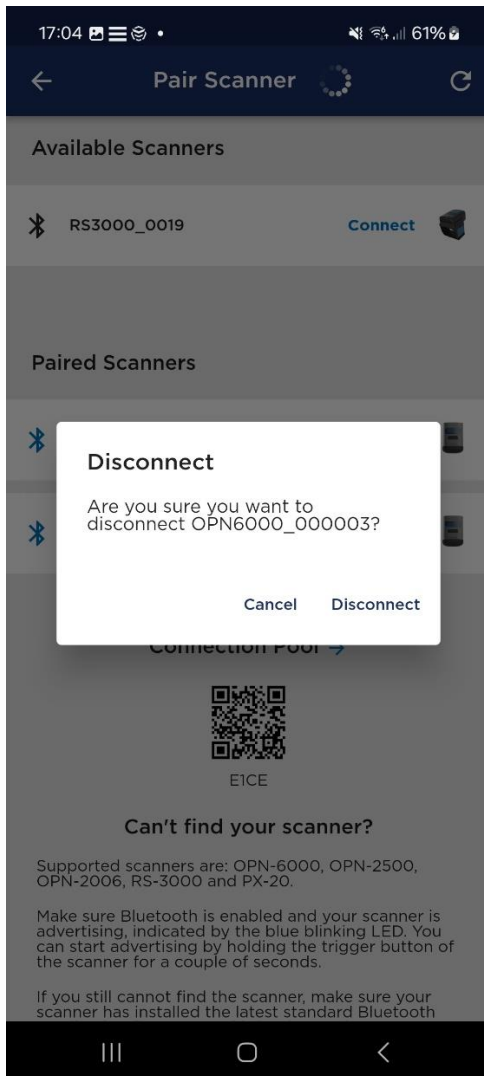

Figure 5-10: The *Disconnect* dialog appears after pressing the **Connected** text of the device.
- **Press on the **Connected** text:** Click on the **Connected** text next to the scanner you wish to disconnect. A dialog will appear, providing the option to disconnect the scanner (see Figure 5-10). Once disconnected, the scanner will be in advertising mode and unavailable for auto-connection for three minutes to this device, and its status will change to **Disconnected**.